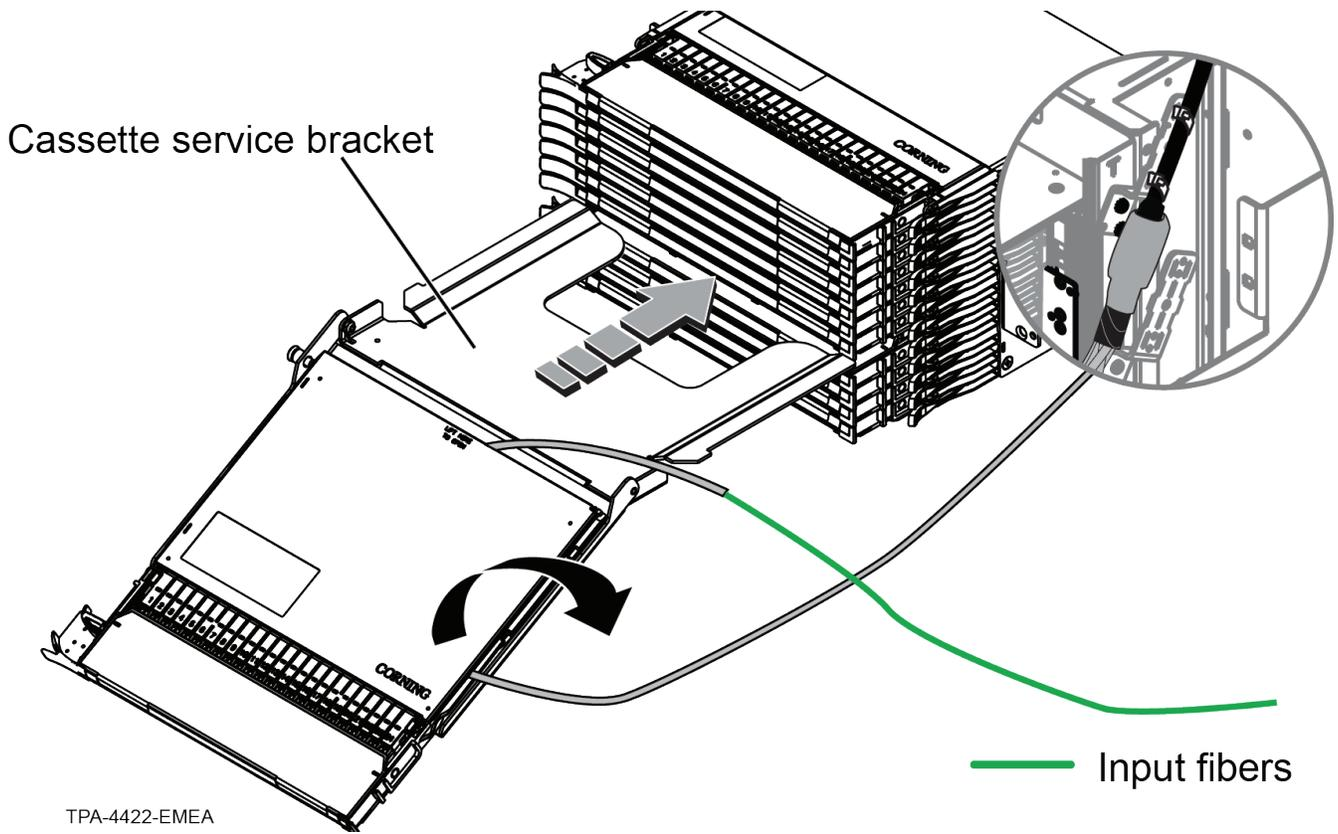

Figure 36
**Step 4:** If using the service bracket, place the cassette on it as shown in Figure 35. Then insert the service bracket into the slot vacated by the cassette being work on (Figure 36). Open the cover of the cassette and remove it, if desired, by bowing the hinged edge of the cover to release the hinge pins.